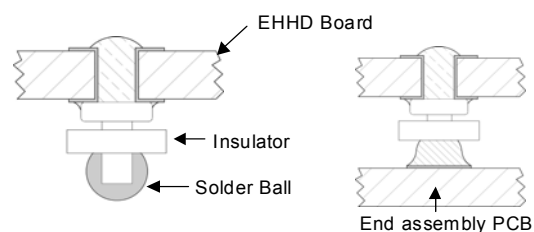

Figure 25. Column Pin Connector Before and After Reflow Soldering .
The surface mountable modules in the EHHD family use our newest SMT technology called "Column Pin" (CP) connectors. Figure 25 shows the new CP connector before and after reflow soldering onto the end-board assembly. The CP is constructed from a solid copper pin with an integral solder ball attached, which is composed of tin/lead (Sn/Pb) solder for non-Z codes, or Sn/Ag3/Cu (SAC) solder for -Z codes.